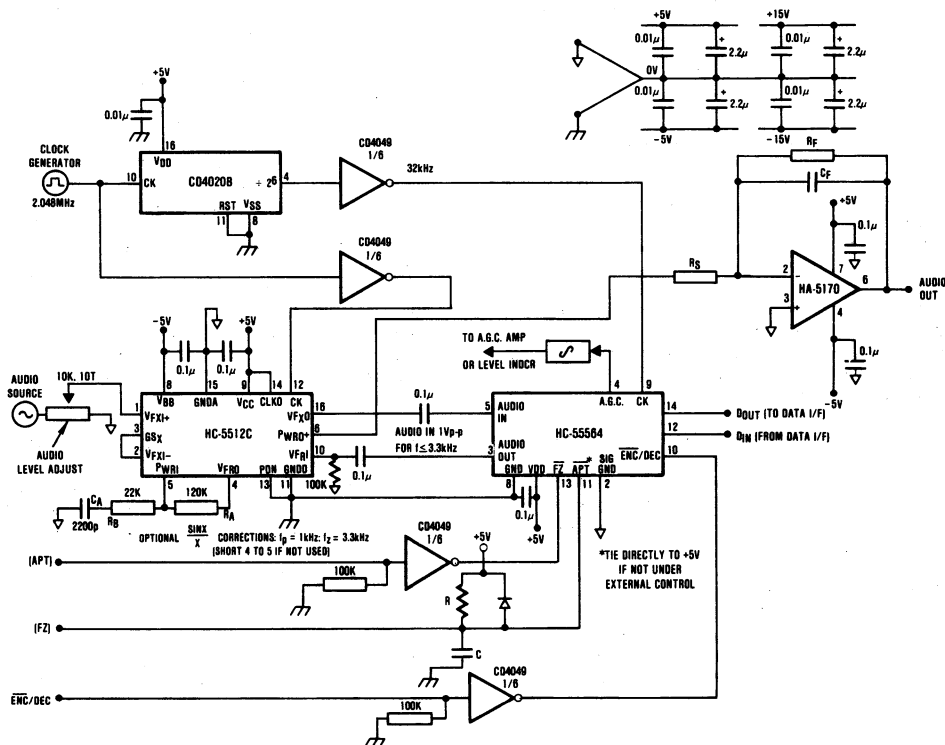

FIGURE 3. SUGGESTED CVSD-PCM FILTER INTERFACE
The Force Zero (FZ) input to the CVSD is used to reset all the internal counters at the start of an encode or decode cycle to prevent momentary overload. It will also recover the part from a latch-up condition. Cycling FZ during power-up sequencing is recommended. A suggested power-up reset circuit is shown in Figure 3 on the FZ control line. During the time FZ is active (low), an alternating 1.0 quieting pattern appears at the NRZ output which is at half the sampling clock rate, and is decoded inaudible. The quieting pattern may also be generated by activating the Alternate Plain Text (APT) input (low), or by removing the signal from the audio input pin.